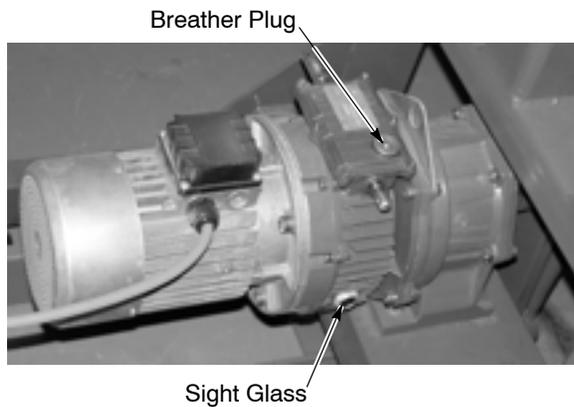

Figure 4 Breather Plug Installation
1. **Initial Startup Only:** See Figure 4. If present, remove the plastic oil filler plug from the speed variator/gear reducer. Puncture the plastic shroud (if present) and install the supplied breather plug.